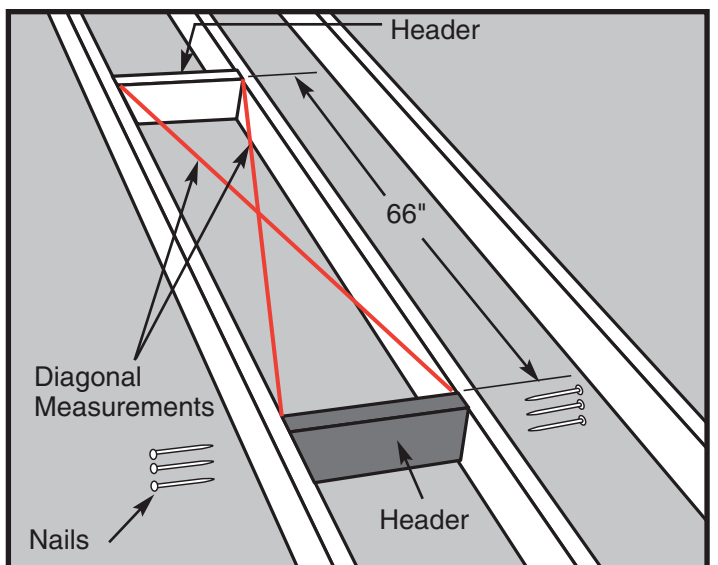

Figure 13 How to check for square
- STEP 5.** Position the second header 66" from the first one and repeat Step 4 (See Figure 13).
- STEP 6.** The frame for the rough opening requires four sides. The headers make up two of those sides. If your ceiling joists are spaced so that they make up the other two sides of the rough opening, check the opening for squareness by measuring across the diagonals. The measurements should be within 1/8" to be considered squareness (See Figure 13).